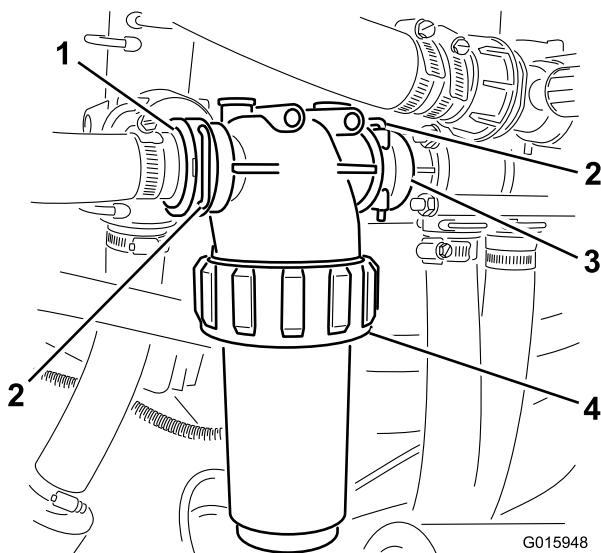

Figure 34
6. Install the pressure filter assembly to the T5 adapter fitting and secure it with a fork pin (Figure 34).
8. Insert the T5 straight hose-barb fitting (from loose parts) onto the pressure filter and secure it with a fork pin (Figure 34).